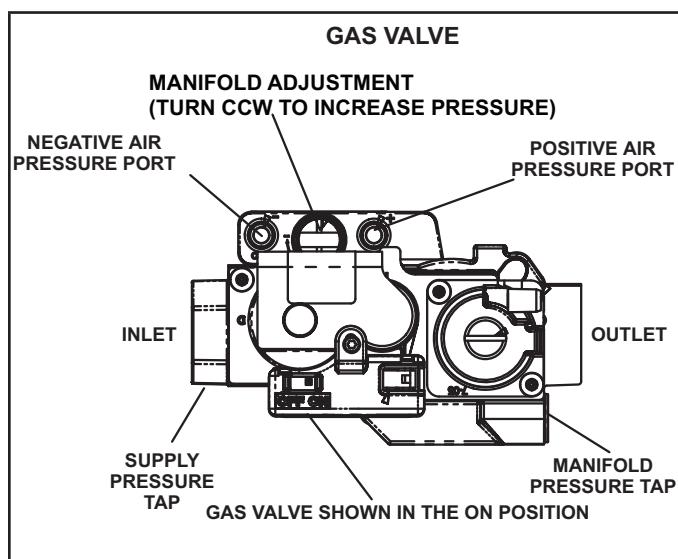

FIGURE 2
- 6 - Move the switch on the gas valve to OFF. Do not force the switch. See figure 2.
- 7 - Wait five (5) minutes for any gas to clear out. If you then smell gas, STOP! Immediately call your gas supplier from a neighbor's phone. Follow the gas supplier's instructions. If you do not smell gas, go to the next step.